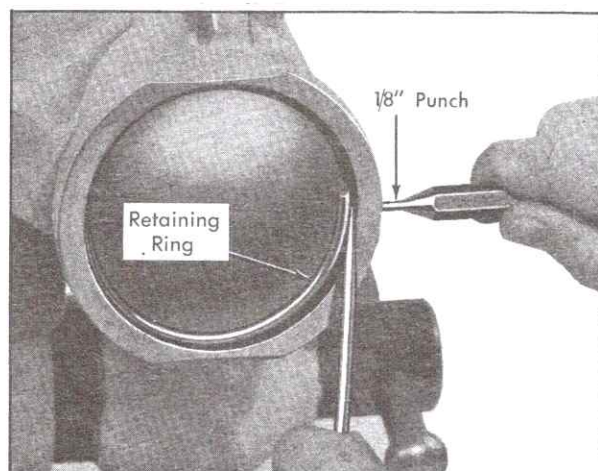

Fig. 9-22 Removing End Plug Retaining Ring
2. Rotate gear housing end plug retaining ring so that one end of ring is over hole in housing. Spring one end of ring with punch to allow screwdriver to be inserted to lift ring out, Fig. 9-22.